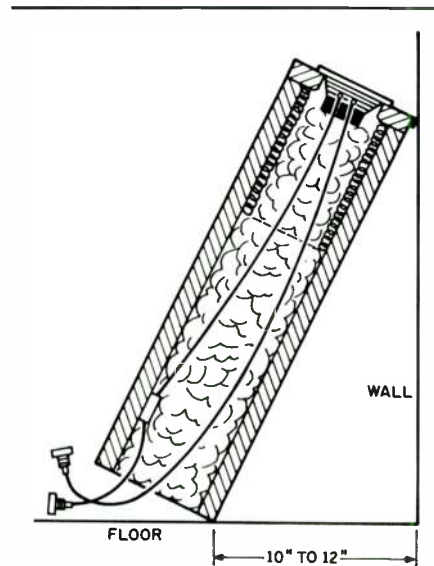

FIGURE 1: The Sipline speaker.
**SPEAKER DESIGN.** The Sipline, for all its sonic merits, is ugly. Even so, it is quite a sophisticated little speaker. To make matters worse, it leans against the wall (Fig. 1) at a precarious angle.